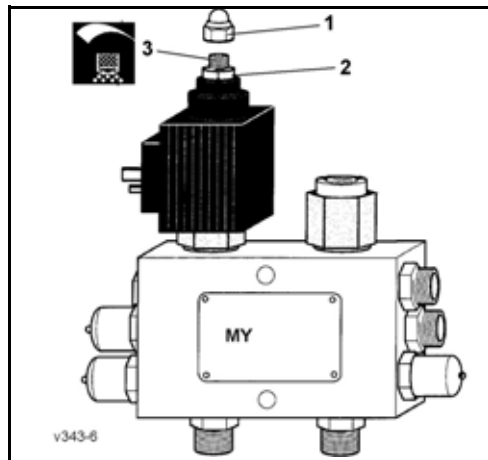
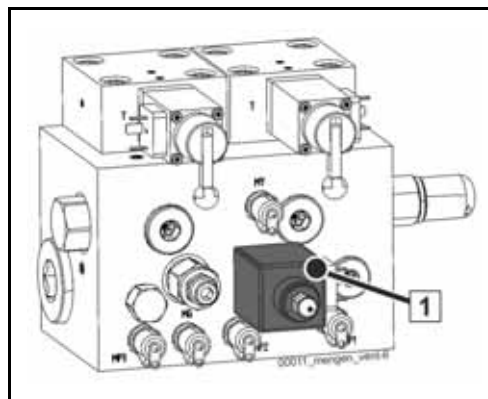

Fig. 217 Valve design 1
Fig. 218 Valve design 2
In both operating modes (LOCAL and REMOTE), the stroke rate of your concrete pump is regulated via this electrically adjustable valve (**Fig. 217**).
- Remove the cap nut (1) (**Fig. 217**).
- Hold the screw spindle (3) with an Allen key and loosen the lock nut (2).
- Configure the max. flow rate (stroke rate) for the concrete pump on the “emergency-off block” for adjusting the flow rate (Fig. 217)/(Fig. 218).